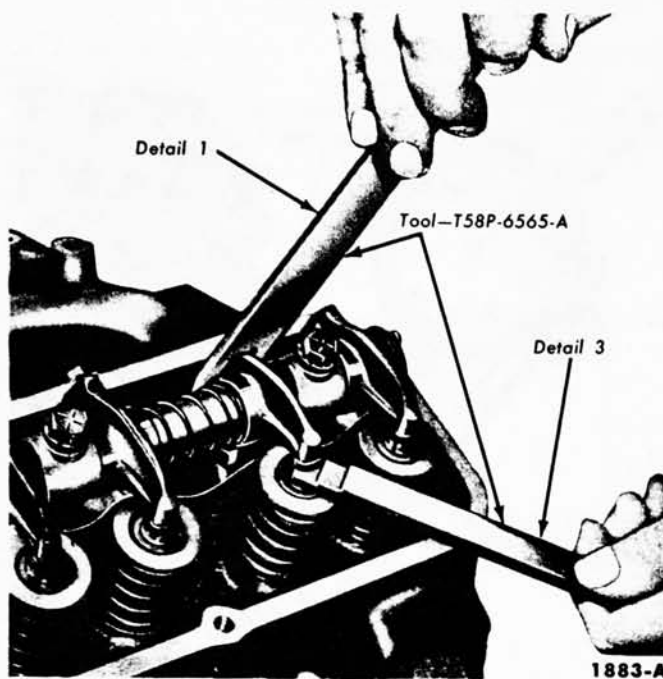

FIG. 2—Valve Clearance—Typical
1. Position the crankshaft as outlined in Steps 2 and 3. Position the hydraulic lifter compressor tool on the rocker arm and slowly apply pressure to bleed down the hydraulic lifter until the plunger is completely bottomed (Fig. 2). Hold the lifter in the fully collapsed position.
On a 352 engine, insert the clearance gauge (Fig. 2) between the valve stem and the rocker arm of the valve to be checked.
Upon replacement of a valve push rod and/or valve rocker arm shaft assembly, the engine should not be cranked or rotated until the hydraulic lifters have had an opportunity to leak down to their normal operating position. The leak down rate can be accelerated by using the tool shown in Fig. 2 on the valve rocker arm, apply pressure in a direction to collapse the lifter.